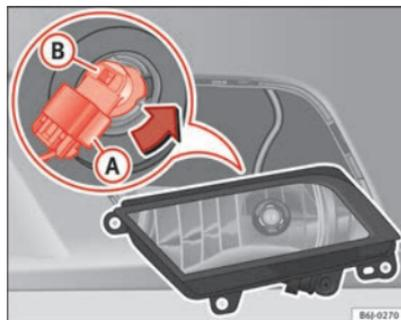

Fig. 160 Fog lights
- Extract the connector => fig. 160 (A) from the bulb.
- Rotate the bulb holder => fig. 160 (A) to the left and pull.